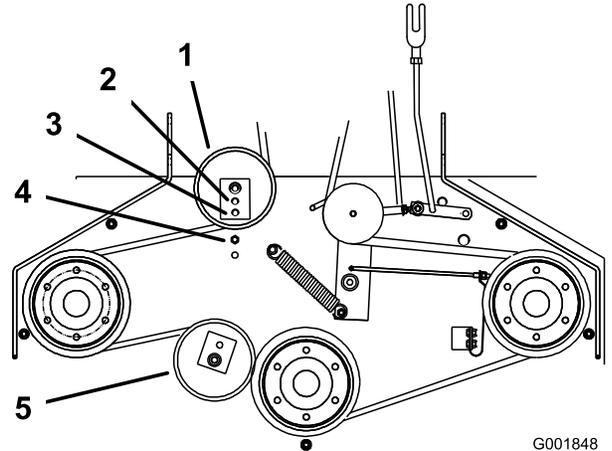

Figure 45
- positioned to the middle or front hole (Figure 45). Use the hole that will give the correct adjustment.
7. When the idler pulley is moved the belt guide must be moved. Move the belt guide to the front position (Figure 45).